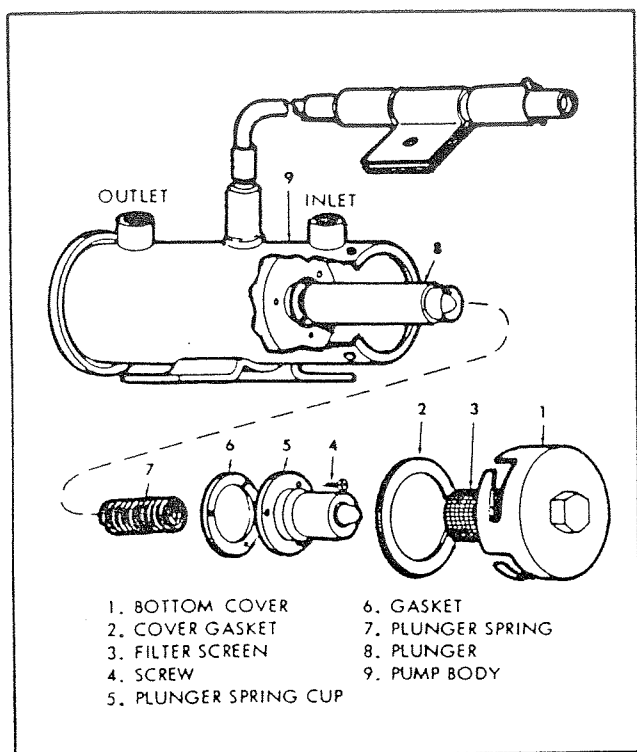

FIGURE 4-1 Exploded View of Electric Fuel Pump
e. Loosen the set screw in the blower wheel (16) and slide it off the motor shaft.
f. Remove the two hex nuts (18), lockwashers (19) and flat washers (20), and slide the back plate (17) off the motor through bolts. The spacer (22) will drop out.
4.3 Disassembly of Fuel Pump (See Figure 4-1)
4.5 Cleaning Fuel Pump Parts (See Figure 4-1)
d. Rinse remaining parts in the solvent and dry with compressed air. Exercise care when drying the screen (3), to prevent damage.
4.8 Inspection of Fuel Pump Parts (See Figure 4-1)